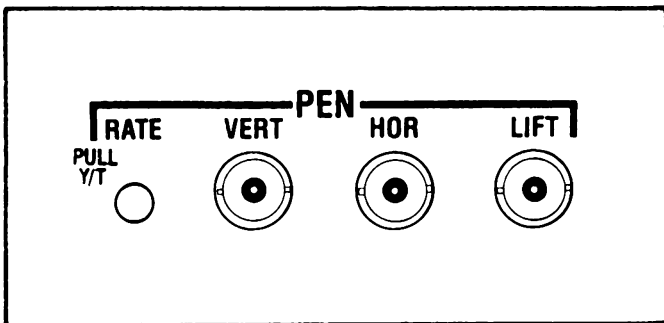

Figure 7-38
The PEN controls, Figure 7-38, are mounted on the rear panel of the Mainframe. These permit the recording of displayed data groups on either an XY or Strip Chart (YT) pen recorder.